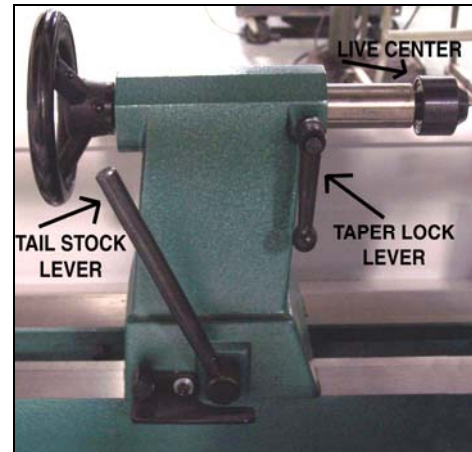

Figure 5.6
5. Loosen **Tailstock Lever** and push **Tail Stock** to secure the wood between **Tailstock** and **Headstock**, and then secure the **Tailstock** by locking the lever. (Figure 5.6)